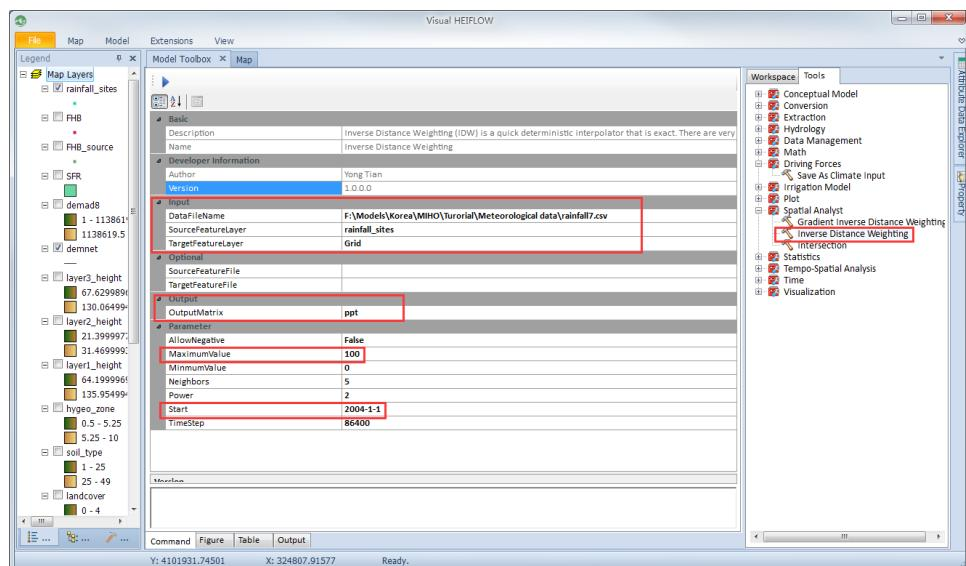

Figure 6-3. Input and Parameter settings for the Inverse Distance Weighting tool.
- 4) Set the other Input and Parameter as shown in Figure 6-3. Click Run. When finished, a matrix named “ppt” appears in the Workspace.